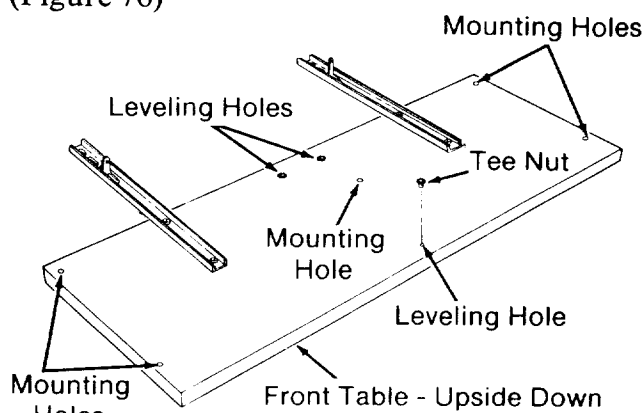

Fig. 76 - Leveling and Mounting Holes
1. Place a *tee nut* over each of the *leveling holes* and hammer them into place. (Figure 76)